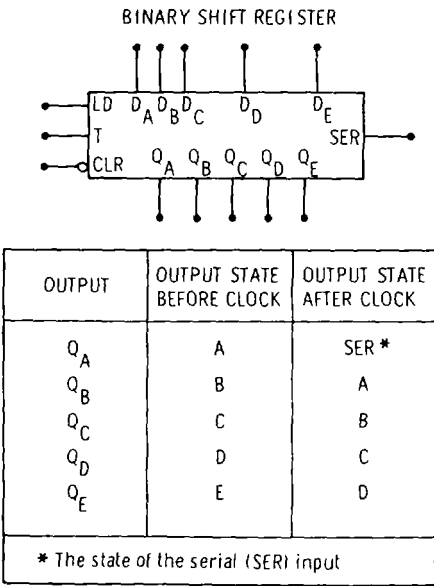

Figure 8-10. Binary Shift Register
8-58. A five bit binary shift register is shown in Figure 8-10. Information of the data (D_n)* inputs is transferred to the respective Q_n outputs when the load (LD) input is high. The load input is independent of the clock (T) input.